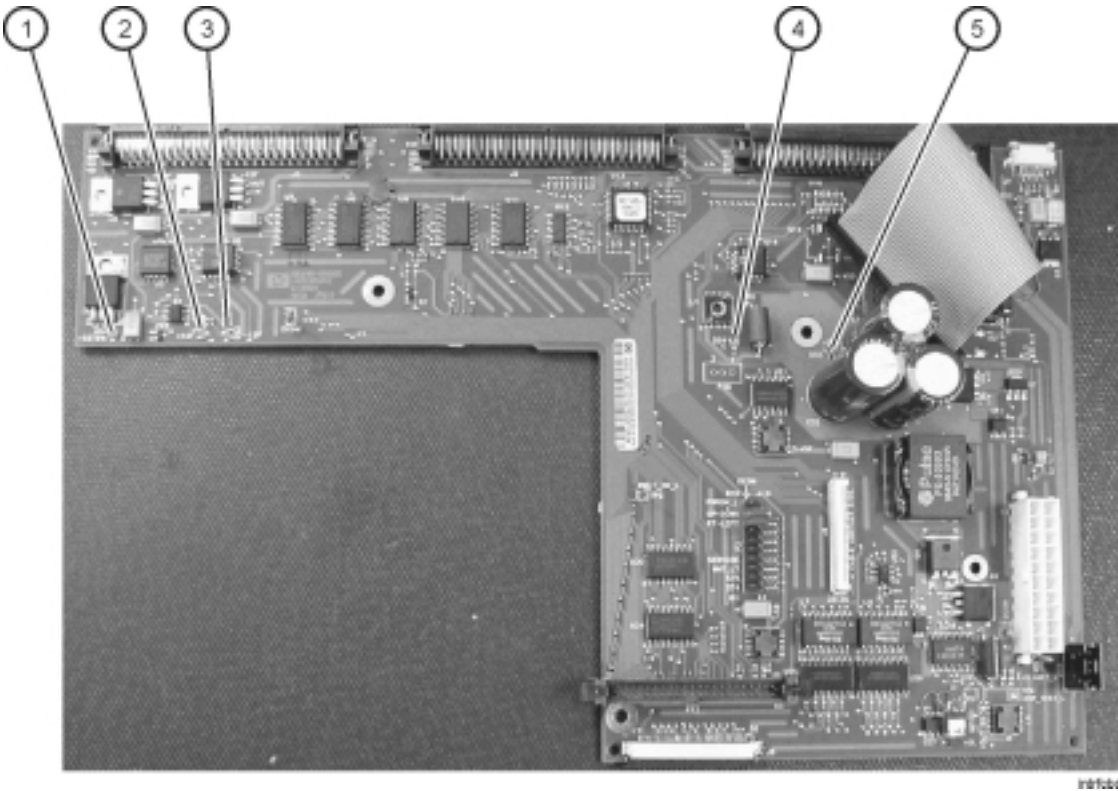

Figure 2-8. Instrument interface board
Visually check for illuminated LEDs on the instrument interface board. There are five LEDs that will be lit on the interface board when the instrument is turned on, but only three can be seen through the instrument vents. Please see ① through ⑤ in Figure 2-8.
Table 2-6. Interface board LED Voltages (see Figure 2-8)